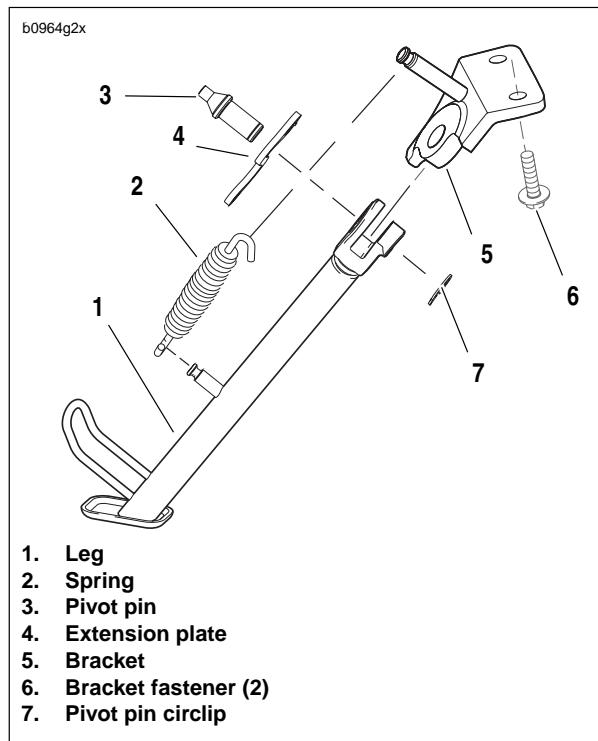

Figure 2-133. Sidestand Assembly
1. See Figure 2-133. Install sidestand leg (1).
- b. See Figure 2-133. Install sidestand leg (1) to bracket (5) by installing the pivot pin (3) and pivot pin circlip (7).
- d. Install spring extension plate (4) and sidestand spring (2) using SNAP-ON SPRING TOOL (Part No. HE-52B).
1. See Figure 2-133. Apply LOCTITE 271 (red) to the sidestand bracket fasteners (6). Loosely install the sidestand assembly to the crankcase with the sidestand bracket fasteners (6). Extend the sidestand leg (1) and hold forward in the fully extended position while tightening the sidestand bracket fasteners (6) in the following sequence: